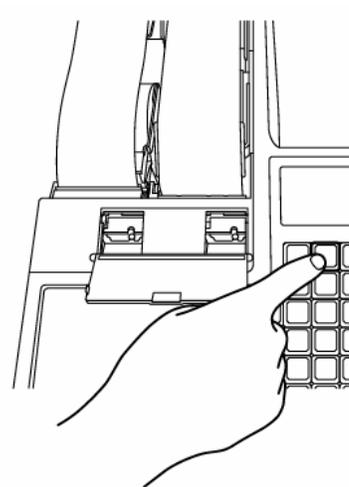

Fig.5
8. Press the J feed key (See Fig. 5).